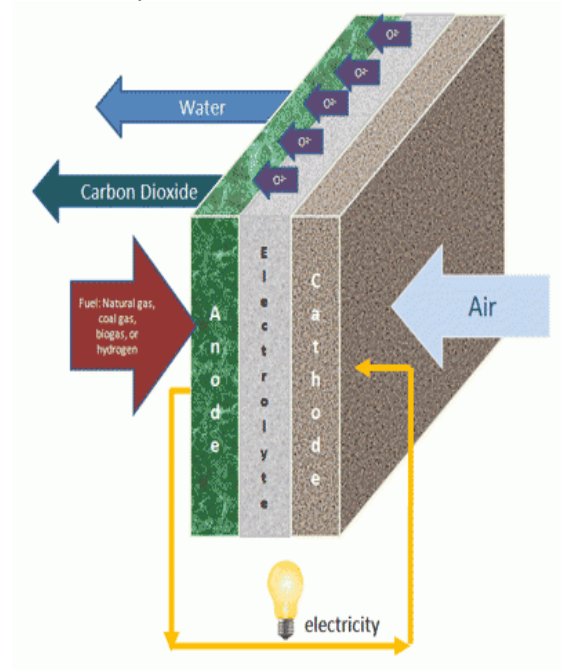

Figure 1 Three ceramic layers of an SOFC
A single fuel cell consists of three basic components1: (1) an anode, (2) a cathode, and (3) an electrolyte that separates them (see Figure 1). Bipolar plates on either side of the cell distribute gases and serve as current conductors. The **Anode** is the negative electrode that releases electrons to the external circuit and oxidizes fuel during the electrochemical reaction. The **Cathode** is the positive electrode that acquires electrons from the external circuit and is reduced during the electrochemical reaction. The **Electrolyte** is the medium that provides the ion transport mechanism between the cathode and anode of the cell.